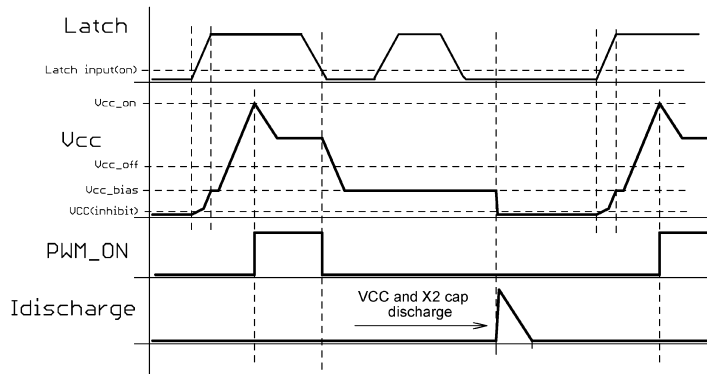
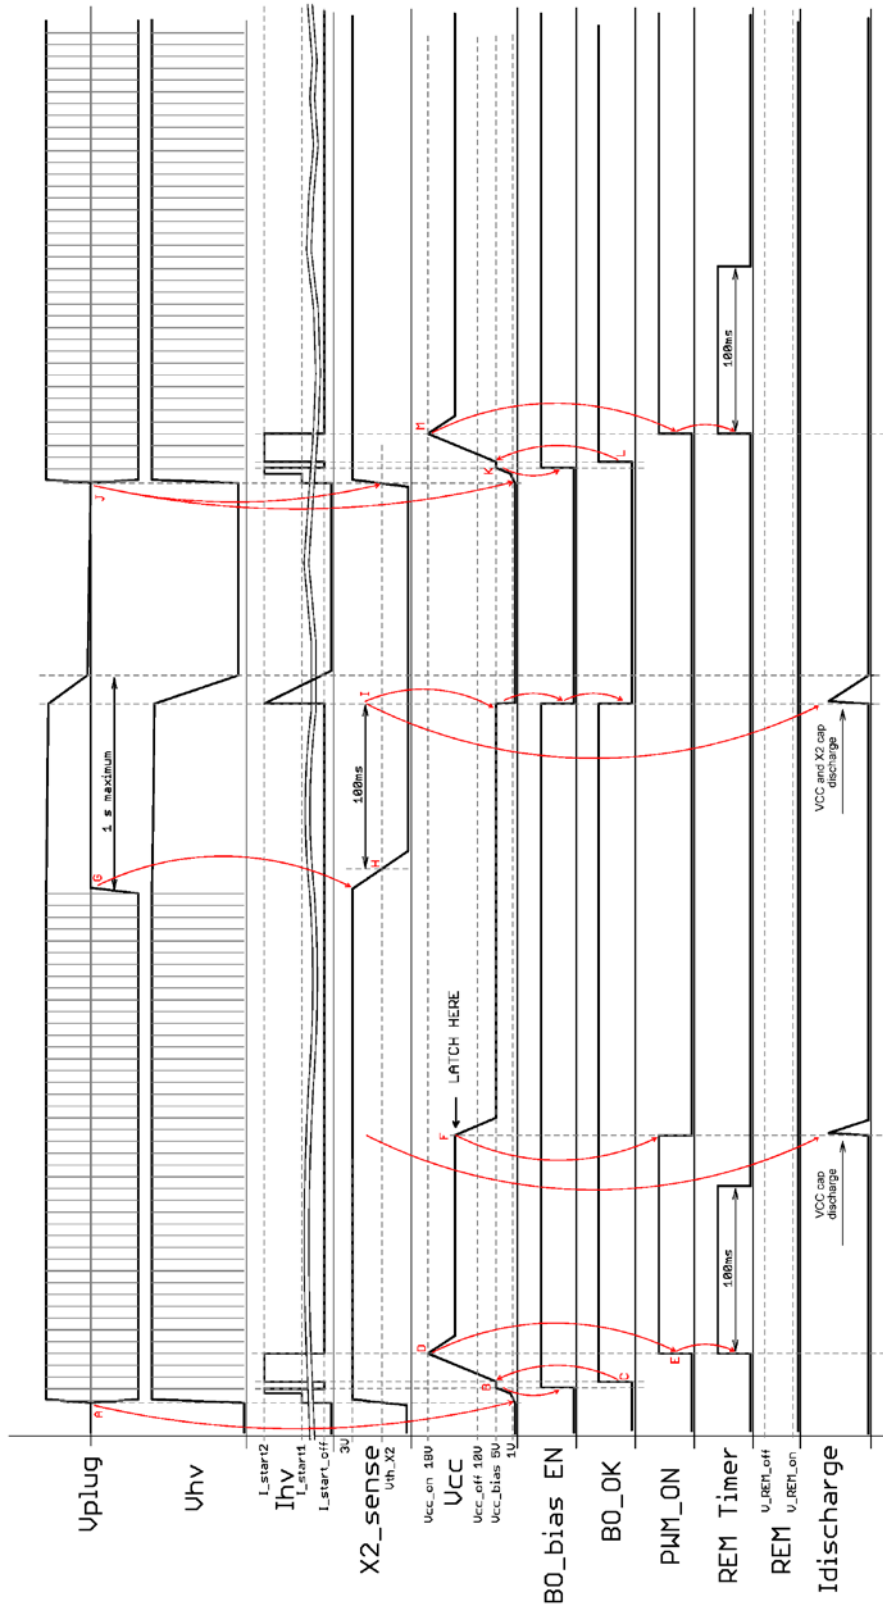

Figure 44. Internal Latch Signal Communication
Figure 50. IC Operation Sequencing – Case 5 (Active ON)
controller latches-off and inter-bonding Latch information is provided, the SCYW99143 goes into latch-off mode refer to Figure 50. Latch-off mode continues until the mains is unplugged – the X2 discharge is confirmed and activated or Vcc is forced below 4 V externally. The inter-bonding Latch signal does not have to be present for the time the controller is latched – the SCYW99143 internal logic triggers on rise edge of this signal only. More details are showed on Figure 44. Latch comparator is enabled only during regular operation – i.e. when Vcc level is between V_{cc_on} and V_{cc_off} levels.
5. *Application start, latch-off after 120 ms, AC line restart – Figure 50:*